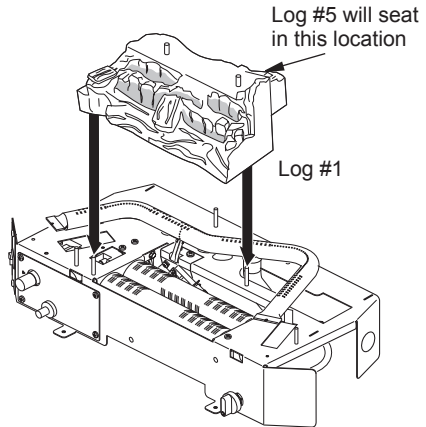

Figure 18 - Installing Log #1 (Ember Bed)
1. Place log #1 (ember bed) onto base over alignment screws to left of front burner and behind middle burner. Log #1 will sit on top of front and middle burners (see Figure 18).